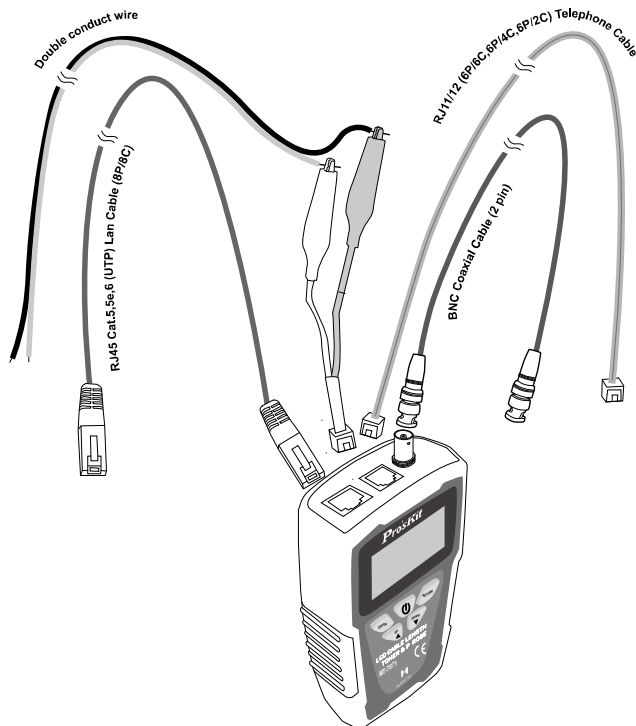

Figure 6 Cable Length Calibrations and Measurement
2. Connect MT-7071 and standard cable as figure 6.
3. Connect MT-7071 and standard cable as figure 6.